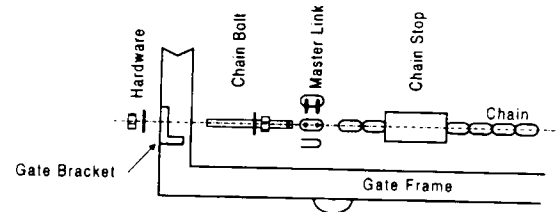

FIGURE 1.9.2A
4. Attach the chain to the chain bolts using the master links supplied, then attach the chain bolts to the chain brackets using the hardware supplied (figure 1.9.2A). Make any adjustments to the chain length at this time.
5. Adjust the chain bolts to tighten the chain. The chain should sag no more than one (1) inch per 10 feet of travel. Do not over tighten the chain.